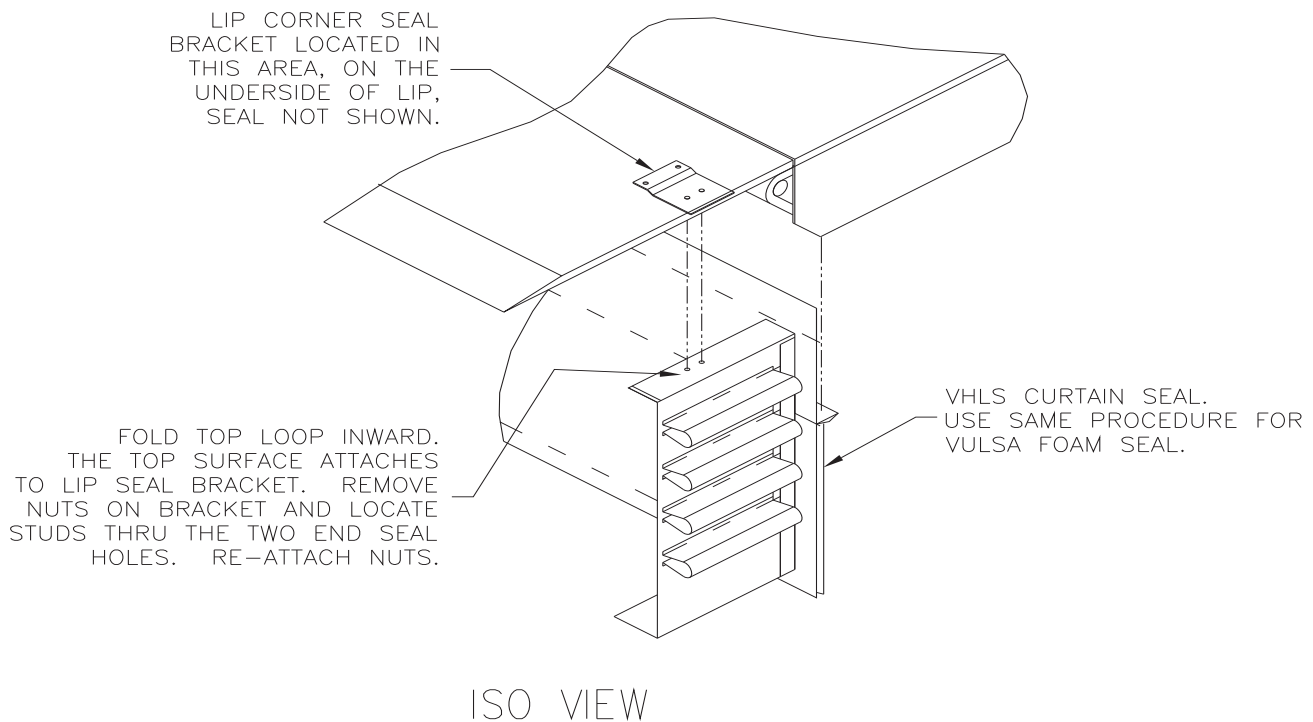

FIGURE 11
- 7) Insert the magnet into the top loop on End Seal. Make sure magnet is orientated correctly so when the top loop is folded, the magnet faces the underside of the lip. (Note: A mounting bracket is shipped with the unit for applications where the magnet can not be used. Locate and weld the bracket based on the holes on the top loop. Reference Figure 11, then go to Step 8.)
Figure 11 shows VHLS. Use same procedure on VULSA. Follow Steps 3-6 above, then with these steps below. Always install Lip Corner Seal before End Seal if used together.
- 13) Next, locate the holes in the End Seal top loop over studs on Lip Corner Seal bracket. (See Figure 11.)